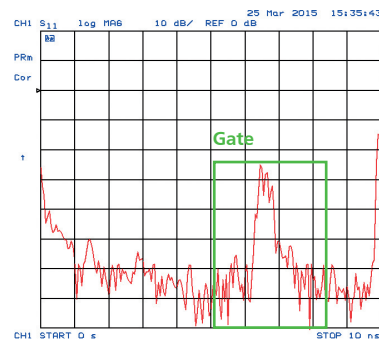

figure 2
- c) A gate (figure 2) with defined start and end points is positioned on the DUT component (e.g. BNC connector, cable, etc.) which has to be measured.